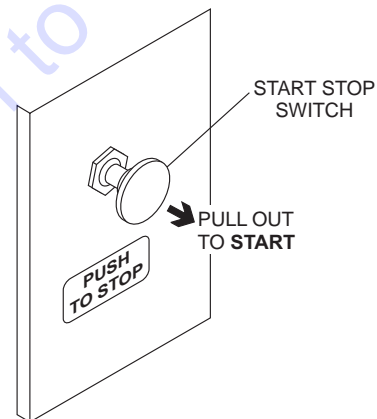

Figure 18. Main ON/OFF Switch
5. Located on the engine cover is the *engine start/stop* switch (Figure 18). Pull this switch outward to start the engine.